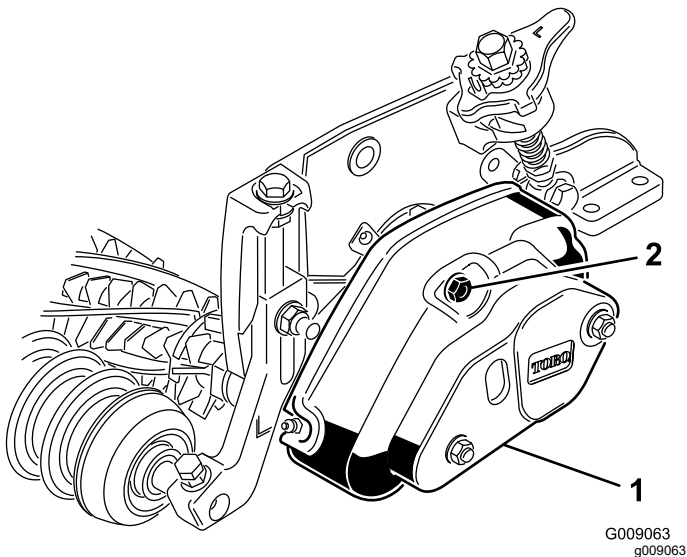

Figure 20
1. Remove the 2 groomer cover mounting nuts and remove the cover (Figure 20).